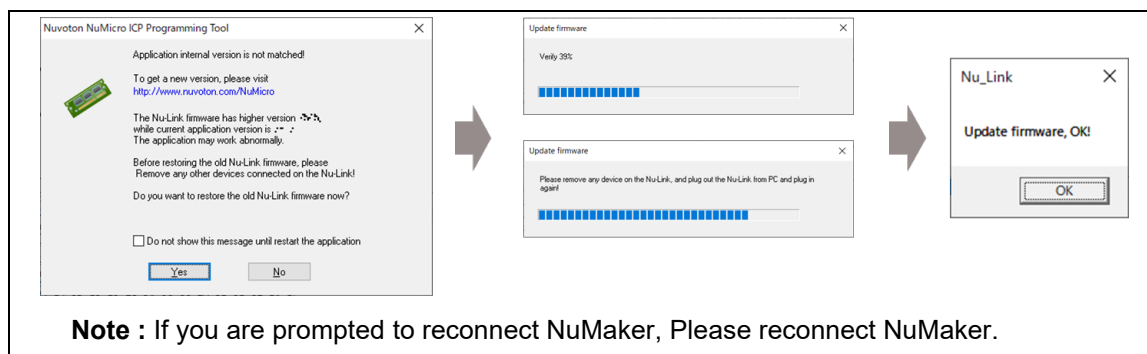

Figure 4-31 NuMaker Firmware Update Flow
- Figure 4-31 shows NuMaker Firmware Update Flow. When the NuMaker firmware update screen shown in Figure 4-31 is displayed, click the <Yes> button to update the firmware. If it is not displayed, there will be no update.